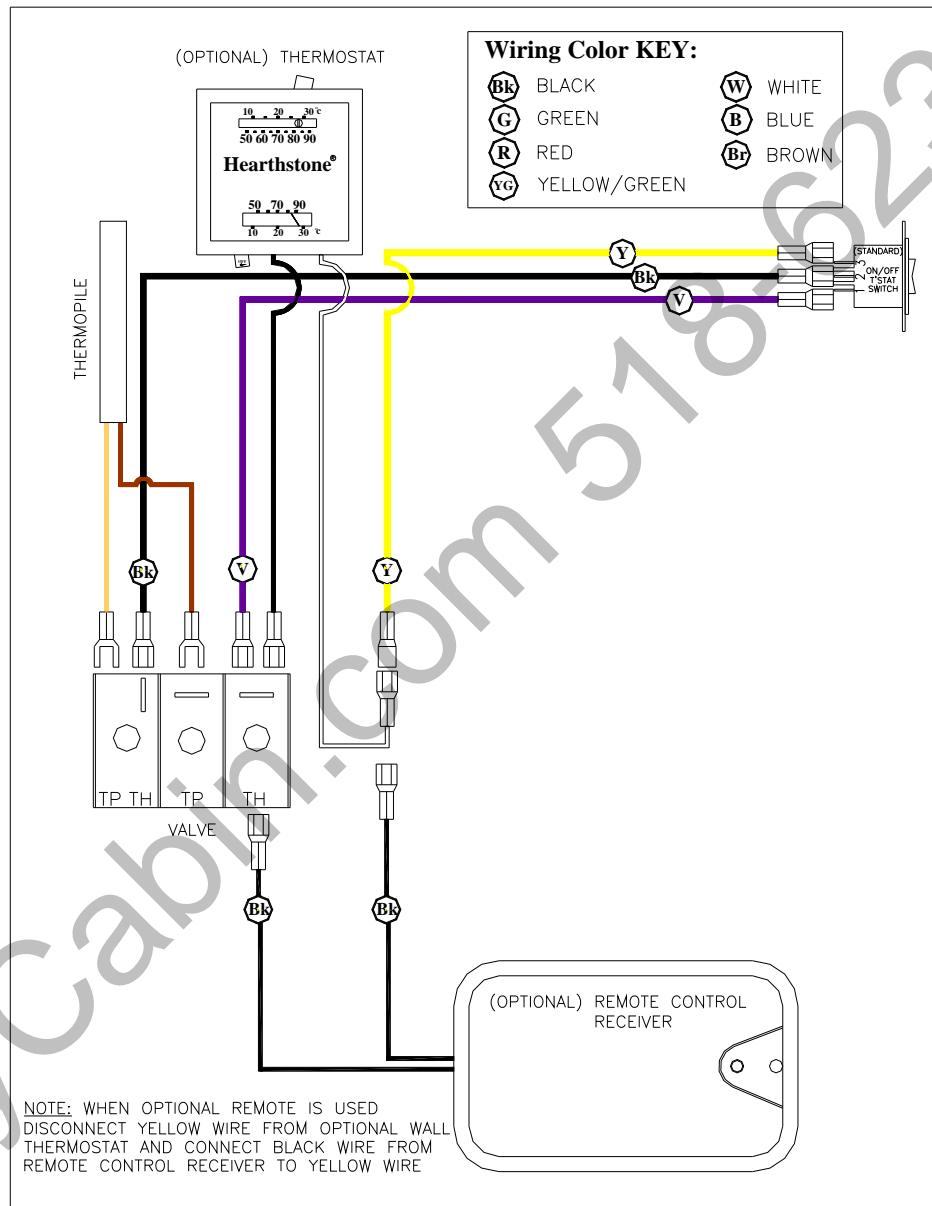

Figure 9: Wiring diagram
**CAUTION: LABEL ALL WIRES PRIOR TO DISCONNECTION WHEN SERVICING CONTROLS. WIRING ERRORS CAN CAUSE IMPROPER AND DANGEROUS OPERATION. VERIFY PROPER OPERATION AFTER SERVICING. (ATTENTION: AU MOMENT DE L'ENTRETIEN DES COMMANDES, ÉTIQUETEZ TOUS LES FILS AVANT LE DÉBRANCHEMENT. DES ERREURS DE CÂBLAGE PEUVENT ENTRAÎNER UN FONCTIONNEMENT INADEQUATE ET DANGEREUX.) THE PROPER LOCATION OF WIRE CONNECTIONS IS SHOWN IN FIGURE 9.**